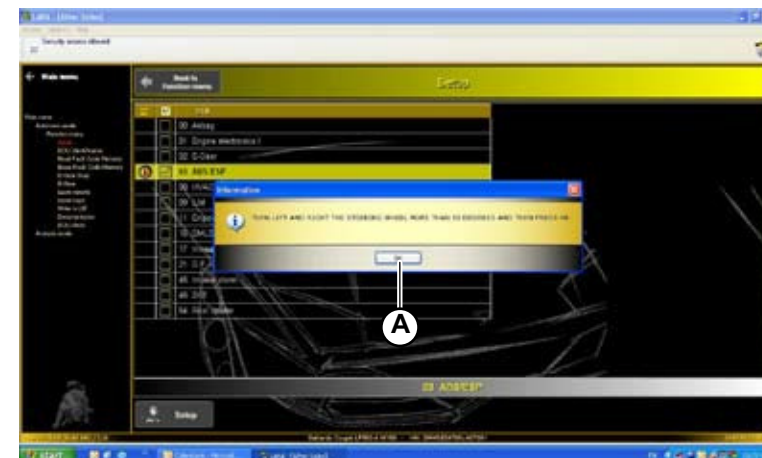

Fig.64
- Turn the steering wheel 90° right and left, then press OK (**A-Fig.64**).